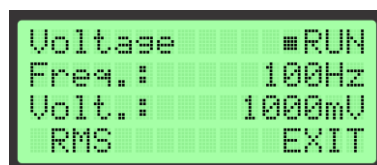

Figure 14 Calibrator in RUN Mode
If the user sets the cursor on RUN and presses Enter (E), an adjusted sinusoidal voltage and frequency will appear on the mV output. The indication that the device is in RUN mode and that the output is generated is represented by a STOP sign (■) instead of RUN sign (▶). By pressing Enter (E) again, the calibrator stops generating the output voltage and the cursor switches back to RUN (▶). This can be also done by pressing Back (↵) at any cursor position. The view of the screen while generating voltage on its output is given below (See Figure 14).